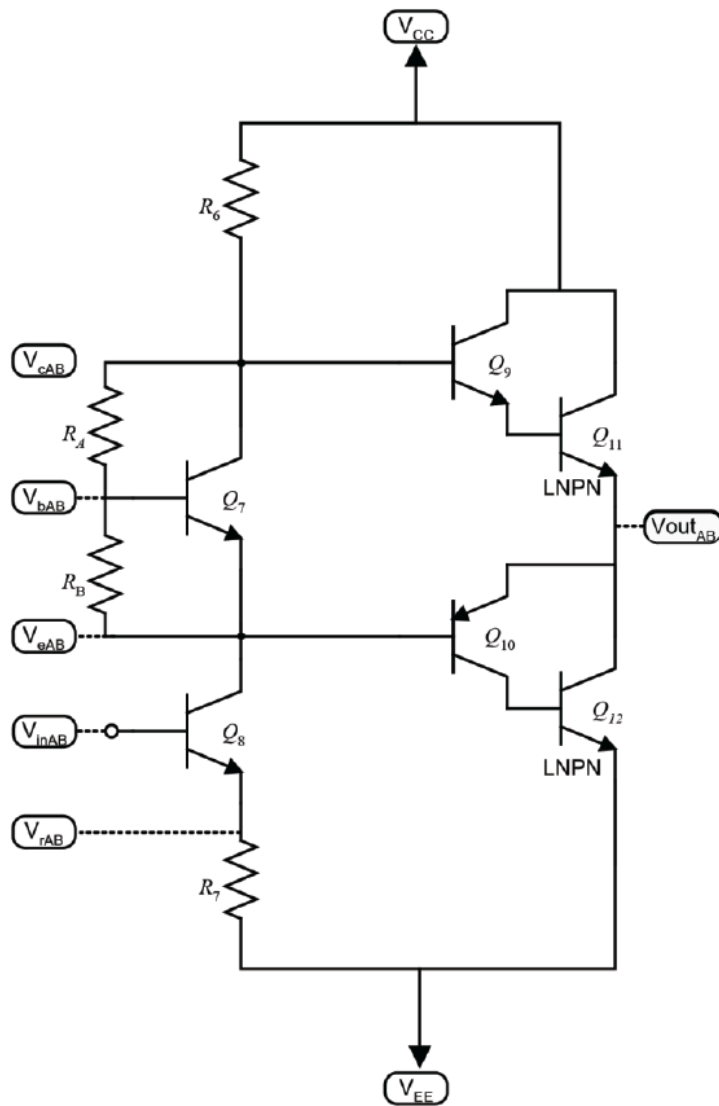
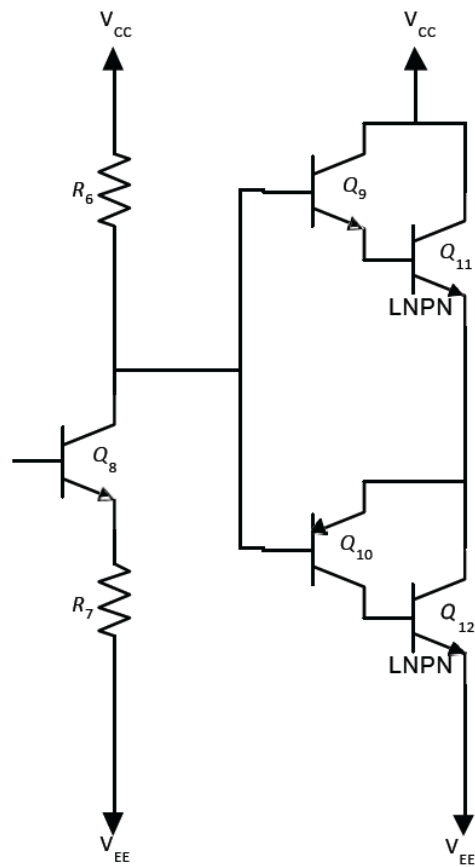
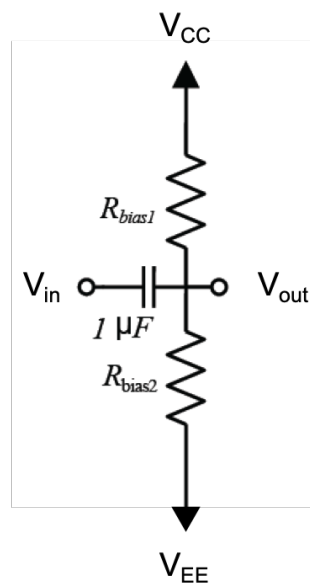

Figure 4.1: Class AB Output Stage
Figure 4.2: Modified Class-B Output Stage
Figure 4.3: Input biasing network used for standalone output stage testing.
The circuit shown in Figure 4.1 is a quasi-complementary (uses a compound PNP-NPN) Class AB output stage, which is designed to provide high currents to a small output load, while remaining linear for large input signals. It also features a built-in gain that is provided by transistor Q_8 . In addition, it uses a VBE multiplier circuit to bias the output transistor pairs correctly. If the two terminals of the VBE multiplier are shorted together, the circuit becomes a Class B output stage, as shown in Figure 4.2. Figure 4.3 shows the biasing circuit you will need to use when testing the output stage as standalone circuit. Another biasing approach will be used later on, when the circuit will be incorporated into the op-amp configuration.
3. Design the Class AB output stage circuit in Figure 4.1 by selecting the values of the resistors seen listed in Table 4.1. Check that the following specifications are met: the quiescent current (zero input signal) is 0.5 mA, and that the output stage is capable of supplying 6 V_p-p to a 330 Ω load without significant **visible** distortion, and the output stage provides a unloaded (disconnected load) gain of 10 V/V. Remember that when the circuit is tested alone, the biasing stage in Figure 4.3 needs to be used to interface the signal source to the amplifier input.
1. Assemble the circuit shown in Figure 4.1.